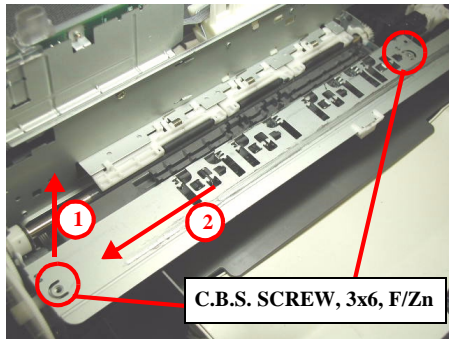

Figure 4-46. Front frame removal
- Fasten two screws (C.B.S. SCREW 3x6 F/Zn) for securing the Front frame to the Main frame (Refer to Figure 4-46)